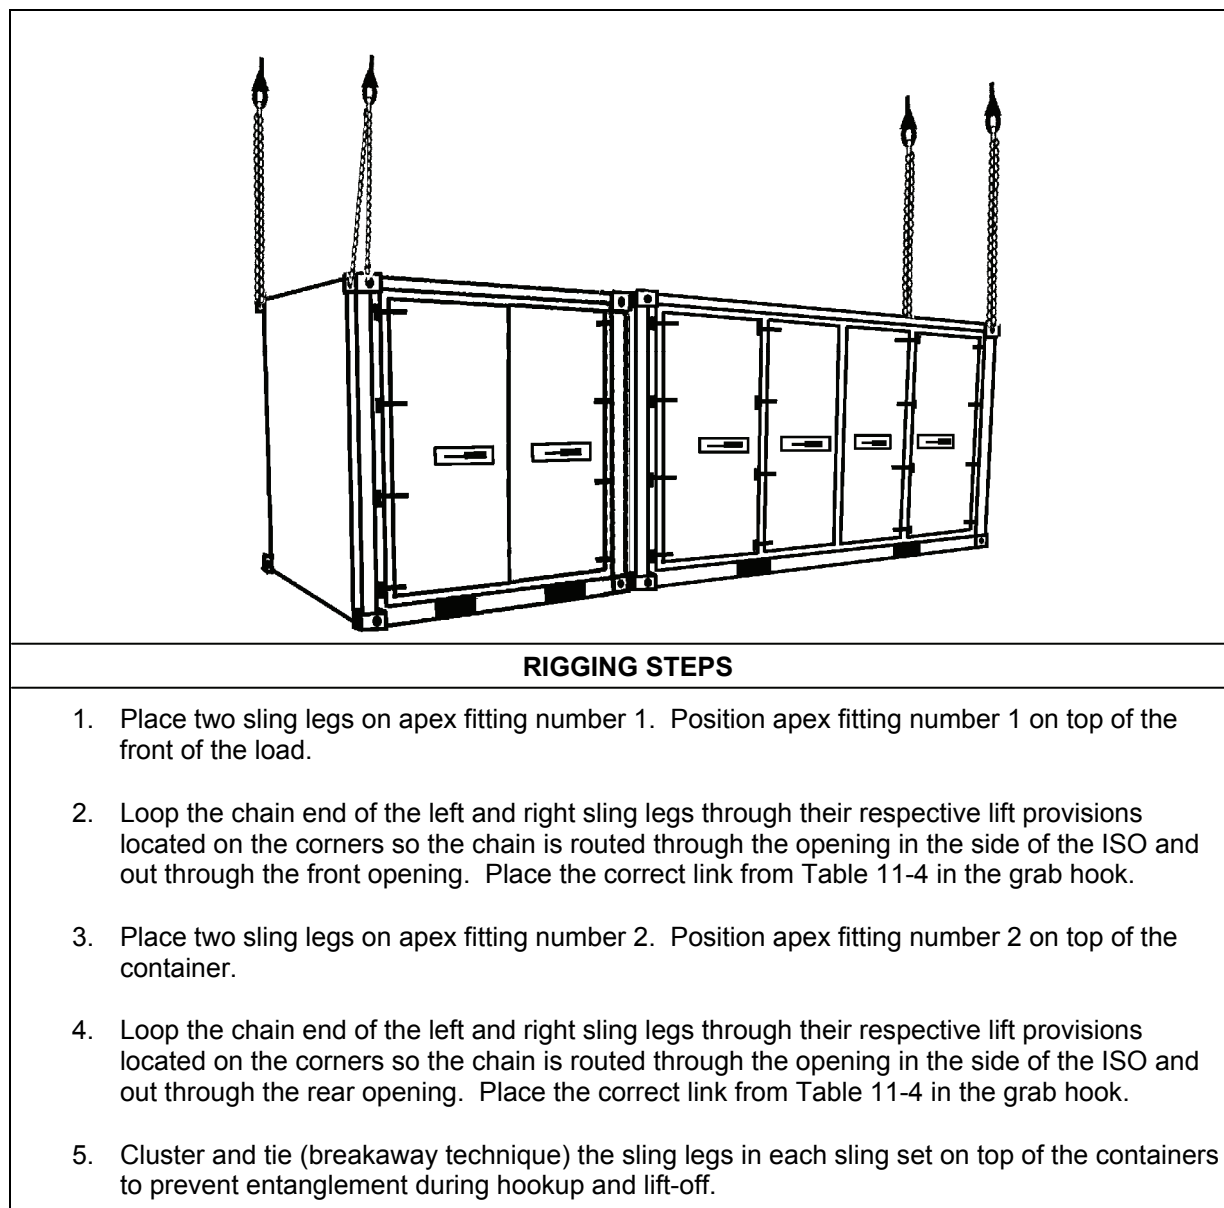

Figure 11-4. Authorized Stockage List Mobility Systems, 8- and 12-Foot Sections Connected
- **Rigging.** Rig the load according to the steps in Figure 11-4.